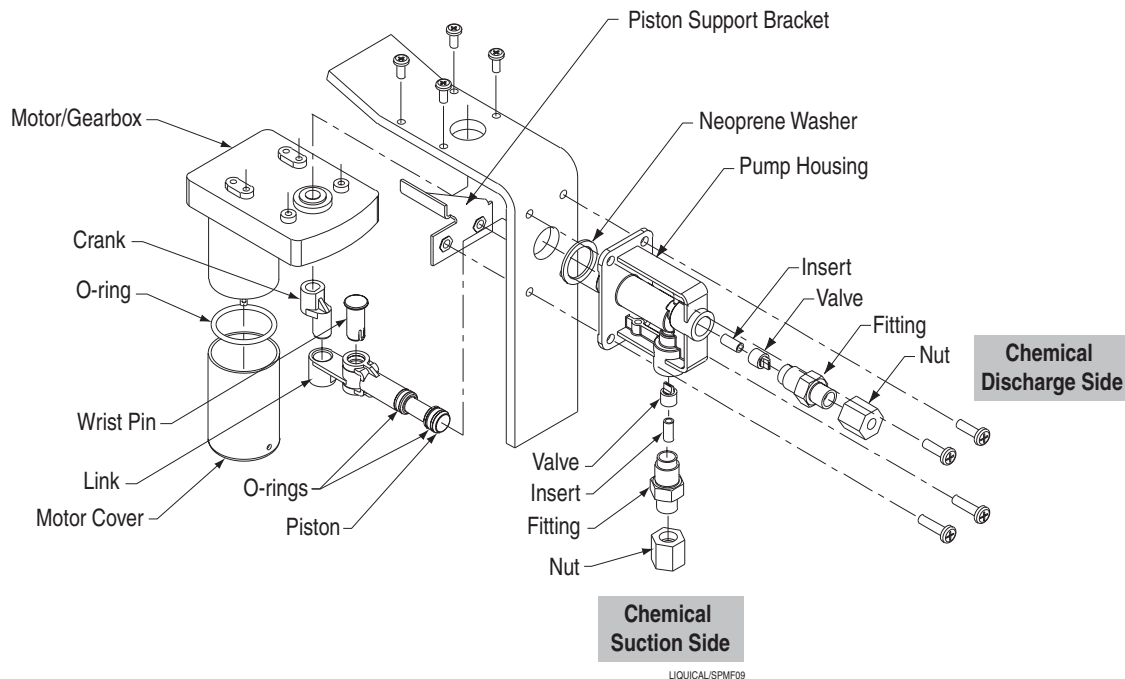

Figure 9. Piston Pump Assembly
9. You can now remove the piston by slipping the link arm off of the crank arm, or removing the wrist pin separating the link arm and piston. Refer to **Figure 9**.
8. You can now remove the piston by slipping the link arm off of the crank arm, or removing the wrist pin separating the link arm and piston. Refer to **Figure 9**.
*Orientation of the duck bill valve and insert on the suction and discharge sides is different. Be sure to reassemble as illustrated in **Figure 9**.*